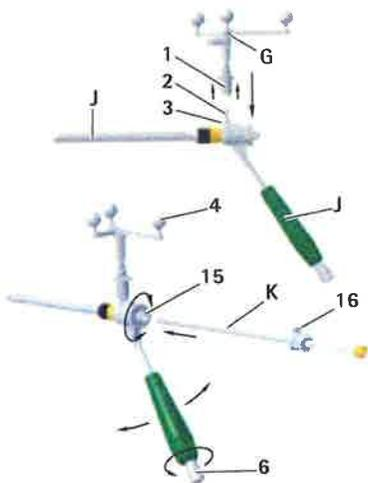

Fig. 10 Mounting the Aesculap star unit onto the S4C guide sleeve; inserting the S4C drill guide
- To ensure the camera has an unrestricted view of the reflective marker spheres, unscrew knob 6 on the S4C handle of the S4C guide sleeve J and turn the Aesculap star unit G to the desired position, see Fig. 10.
- Push inner sleeve guide K onto the inner sleeve 15. The inner guide sleeve engages on the inner sleeve and can still be rotated, see Fig. 10.